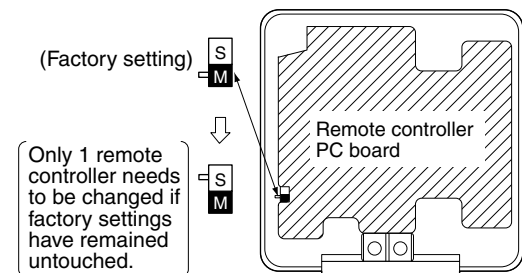

Fig. 36
- (2) Turn the MAIN/SUB changeover switch on one of the 2 remote controllers PC boards to “S”. (Leave the switch of the other remote controllers set to “M”.) (Refer to Fig. 36)